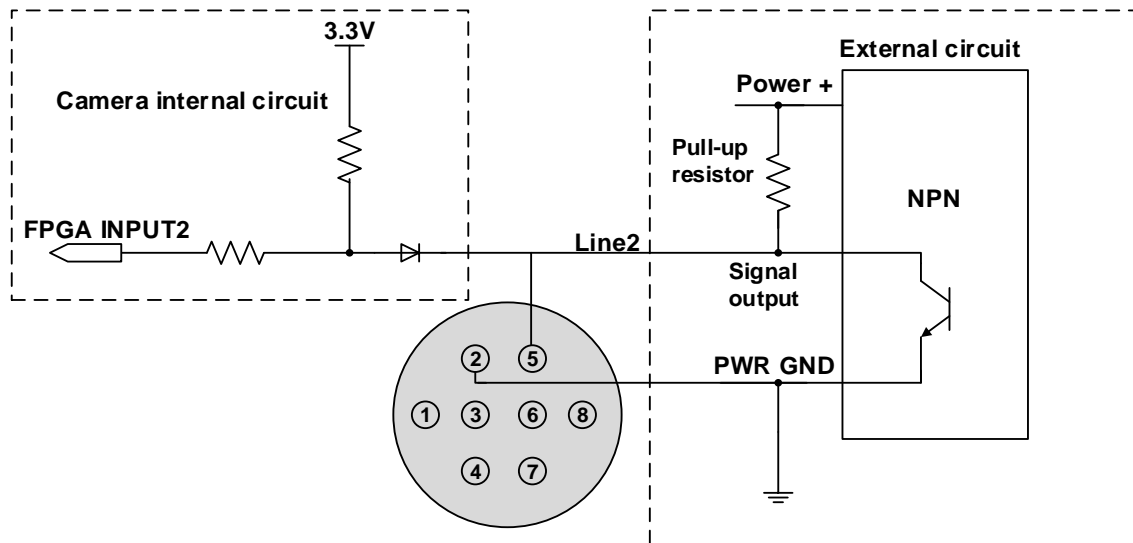
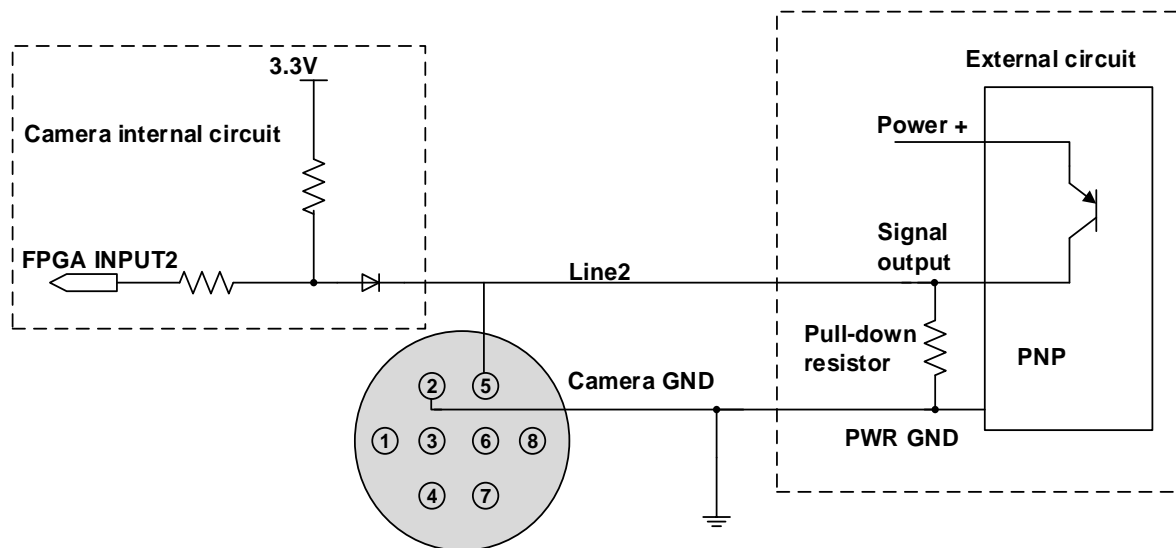

Figure 7-9 NPN photoelectric sensor connected to Line2 input circuit
Figure 7-10 PNP photoelectric sensor connected to Line2 input circuit
- When Line2/3 is configured as input. The connection method between them and NPN and PNP photoelectric sensors is shown in Figure 7-9 and Figure 7-10. The relationship between the pull-up resistor value and the external input voltage is shown in Table 7-3